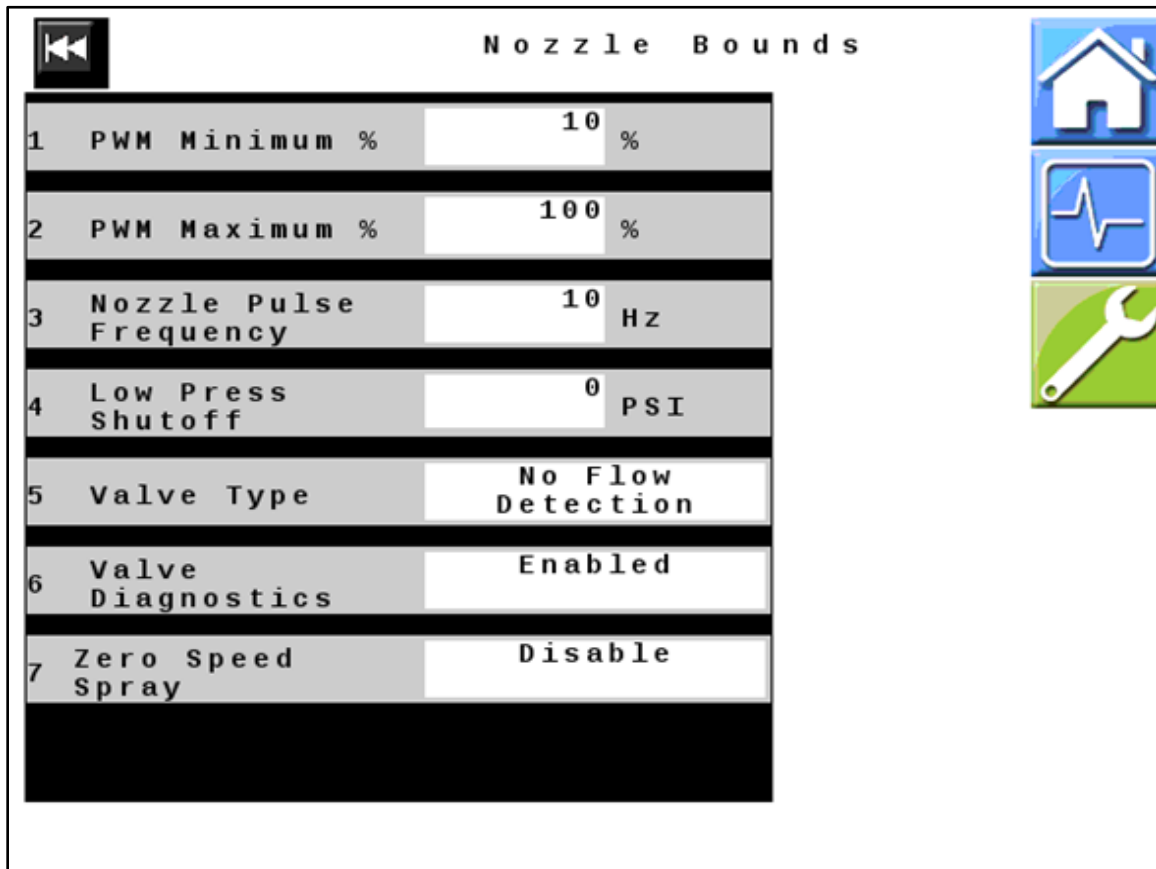

Figure 9 — Nozzle Bounds
14. *Figure 9:* The information in the fields on this screen is machine specific, verify that it is correct for your machine, and change any settings if necessary.